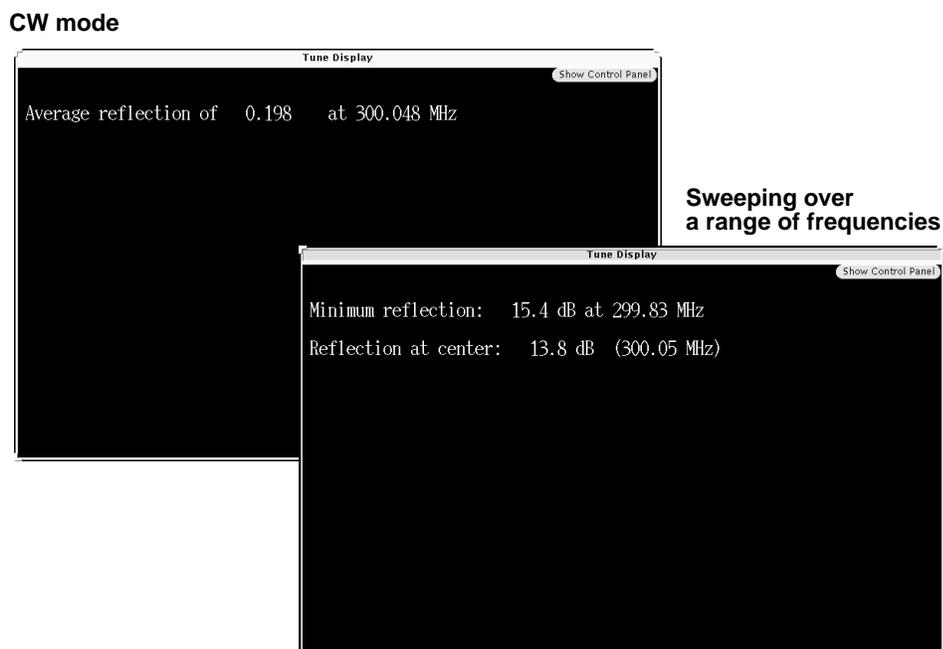

Figure 24. Minimal Display Mode for the Tune Display
- Minimal display simplifies the tune display by showing numerical values instead of the graph, as shown in Figure 24. When sweeping over a range of frequencies, the minimal display shows minimum reflected power and center frequency. When in CW mode, the minimal display shows the average reflected power and the current frequency. Several display controls on the Tune Control Panel are disabled in minimal display mode, including cursors, grid, and markers.